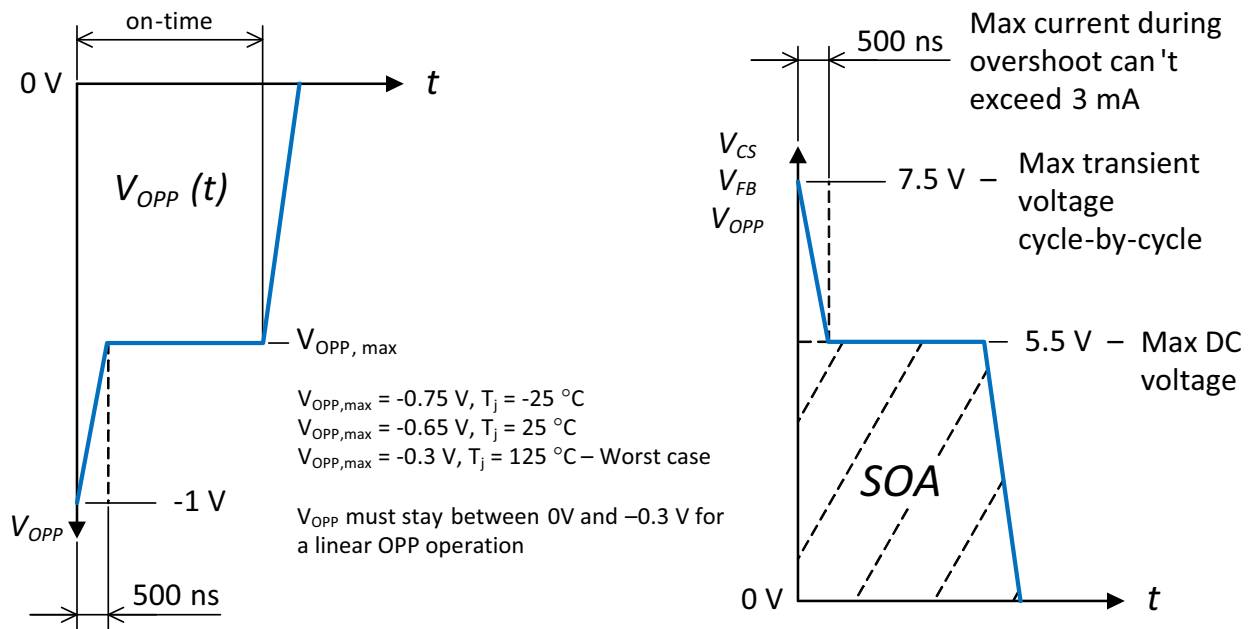

Figure 3. Negative Pulse for OPP Pin during On-time and Positive Pulse for All Low Power Pins
2. See the Figure 3 for detailed specification of transient voltage.